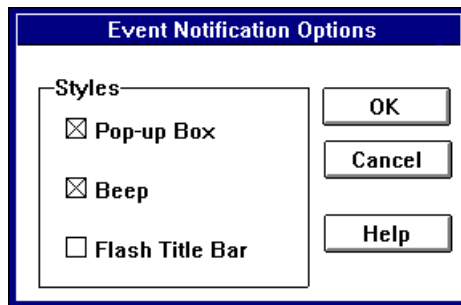

Figure 2-6. Event Notification Options Dialog Box
- 2 Click **Notification**; the Event Notification Options dialog box appears, as shown in Figure 2-6.
- 3 Click **Notification** to change the way in which you are alerted of event notifications sent from servers. The Event Notifications Options dialog box appears, as shown in Figure 2-6 on page 2-10. Select one or more of the available options.